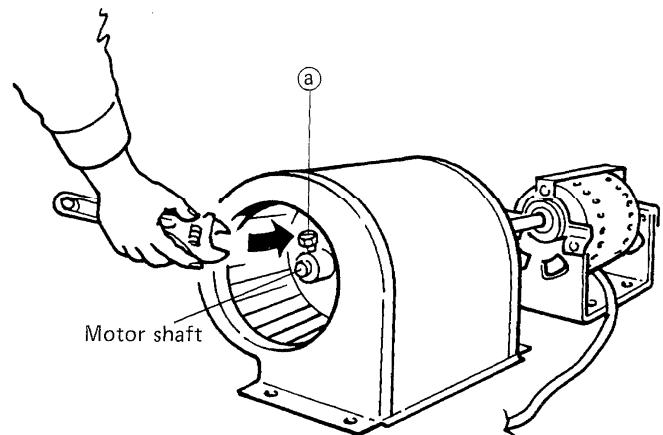

Fig.8
- 5) Pull the motor shaft from the fan. Fig.8.